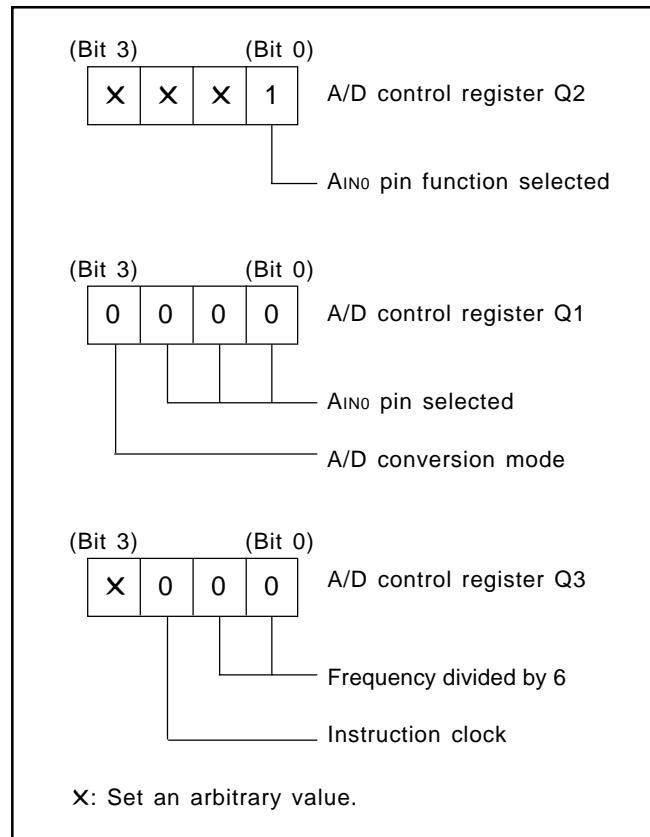

Fig. 37 Setting registers
- ① Select the AIn0 pin function with the bit 0 of the register Q2. Select the AIn0 pin function and A/D conversion mode with the register Q1. Also, the instruction clock divided by 6 is selected with the register Q3. (refer to Figure 37)
- ② Execute the ADST instruction and start A/D conversion.
- ③ Examine the state of ADF flag with the SNZAD instruction to determine the end of A/D conversion.
- ④ Transfer the low-order 2 bits of converted data to the high-order 2 bits of register A (TALA instruction).
- ⑤ Transfer the contents of register A to M (Z, X, Y) = (0, 0, 2).
- ⑥ Transfer the high-order 8 bits of converted data to registers A and B (TABAD instruction).
- ⑦ Transfer the contents of register A to M (Z, X, Y) = (0, 0, 1).
- ⑧ Transfer the contents of register B to register A, and then, store into M(Z, X, Y) = (0, 0, 0).